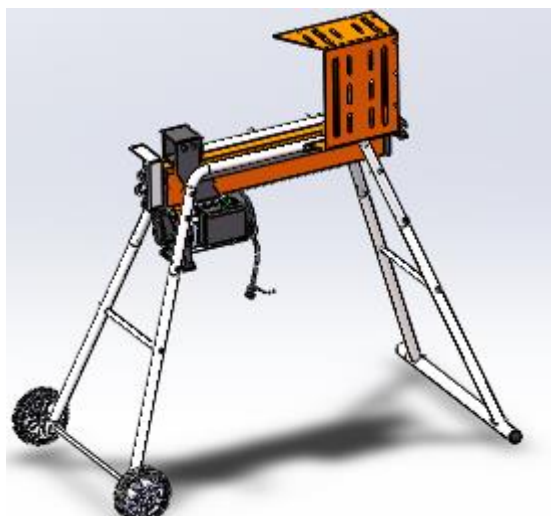

Fig.1
The figure 1 shows the maximum log sizes that can be split.
The diameter of the log is indicative: a small log can be difficult to split if it has knots or a particularly tough fiber. On the other hand, if the wood has regular fibers it is not difficult to split logs with diameter greater than the maximum shown in fig. 1.
1. Using the Allen wrench to make the two M8×16 screws through the two washer8 and the mounting hole for left side support plate, then tighten the screw holes corresponding to the bent legs(fig. 1)